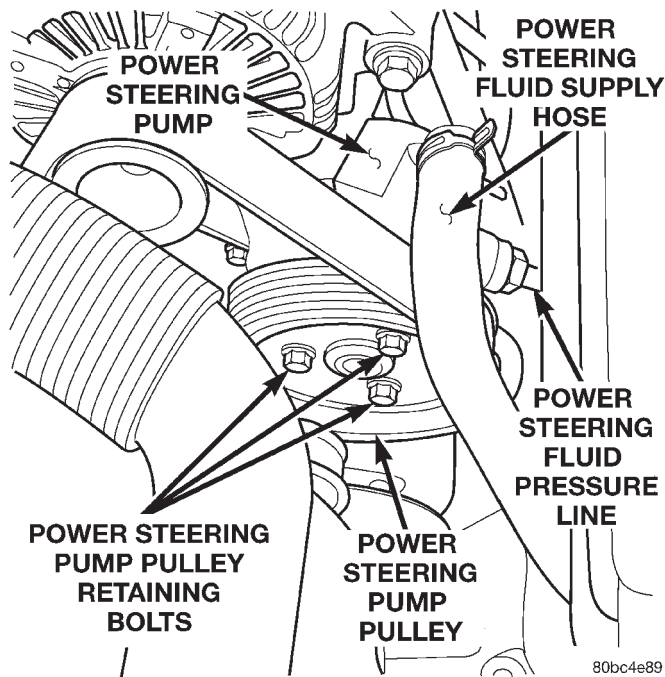

Fig. 30 Power Steering Fluid Lines At Pump
(37) Install the power steering fluid pressure line on the pump (Fig. 30). Be certain the sealing 0-ring is well lubricated and free of tears.
(38) Install the power steering fluid supply hose on the pump (Fig. 30).
(39) Install both of the refrigerant lines on the A/C compressor. Torque the retaining bolts to 28 N·m (21 ft. lbs.). Be certain the sealing gaskets are well lubricated and free of tears.
(40) Install the refrigerant line support bracket and bolt on the cylinder head cover.
(41) Install the tiestraps retaining the wire harness on the low side refrigerant line.
(42) Install the refrigerant liquid line. Torque the retaining nut on the bulkhead to 28 N·m (21 ft. lbs.).